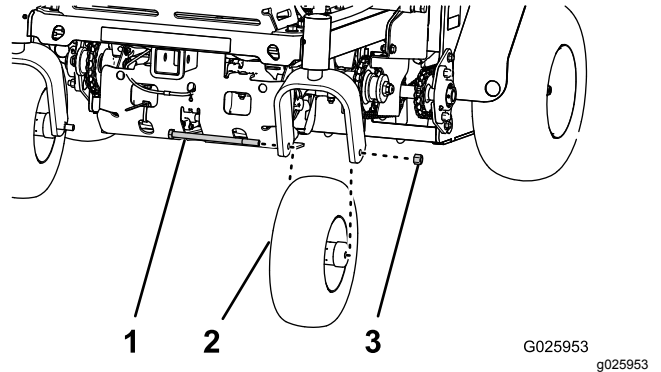

Figure 28
3. Remove the wheel nut and bolt, and remove the caster-wheel assembly from the fork (Figure 28).
- Align the hole in the axle of the caster-wheel assembly between the holes in the fork of the caster (Figure 28).
- Secure the wheel assembly to the fork with the wheel nut and bolt (Figure 28) that you removed in step 3 of Removing the Caster-Wheel Assembly (page 31).